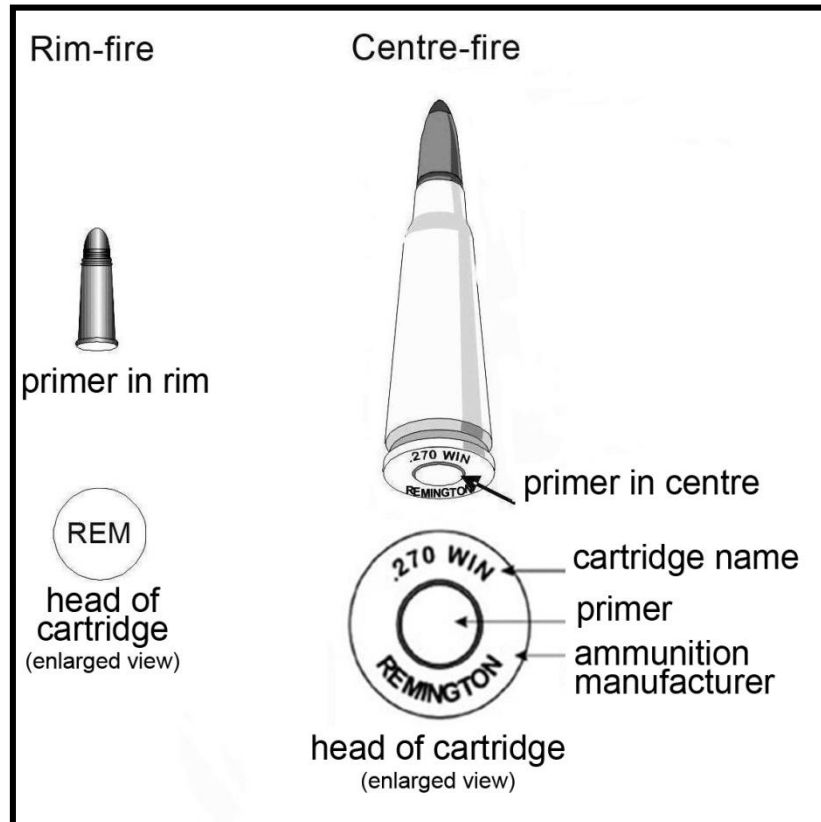

Figure 20. Examples of a Rim-fire and a Centre-fire Cartridge with Head Stamp
- b. Manufacturers produce firearms of many calibres. **Always make sure the cartridge name on the “head stamp” matches the information on the data stamp**, if available, on the barrel of the firearm (Figure 20). This is the most important point to remember when selecting ammunition. Then, choose the right type of ammunition for your firearm and target. The right shape or weight of the bullet is an example. If in doubt, consult a firearms or ammunition vendor.